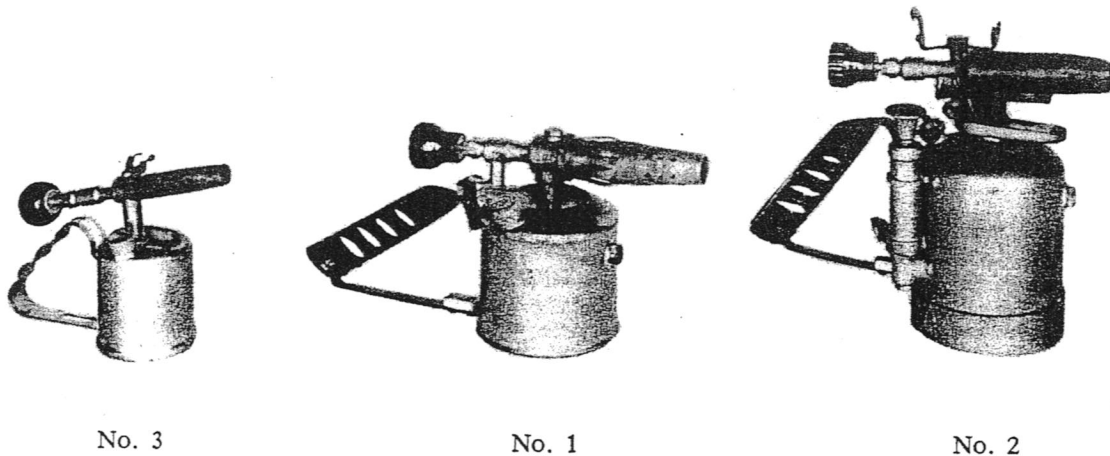

FIG. 1.—LAMPS, TORCHBLOWING
1. **General.**—This Instruction describes the construction and operation of "Lamps, Torchblowing, Nos. 1, 2 and 3" and the precautions which must be observed in their use. These lamps all burn petrol and are illustrated in Fig. 1.